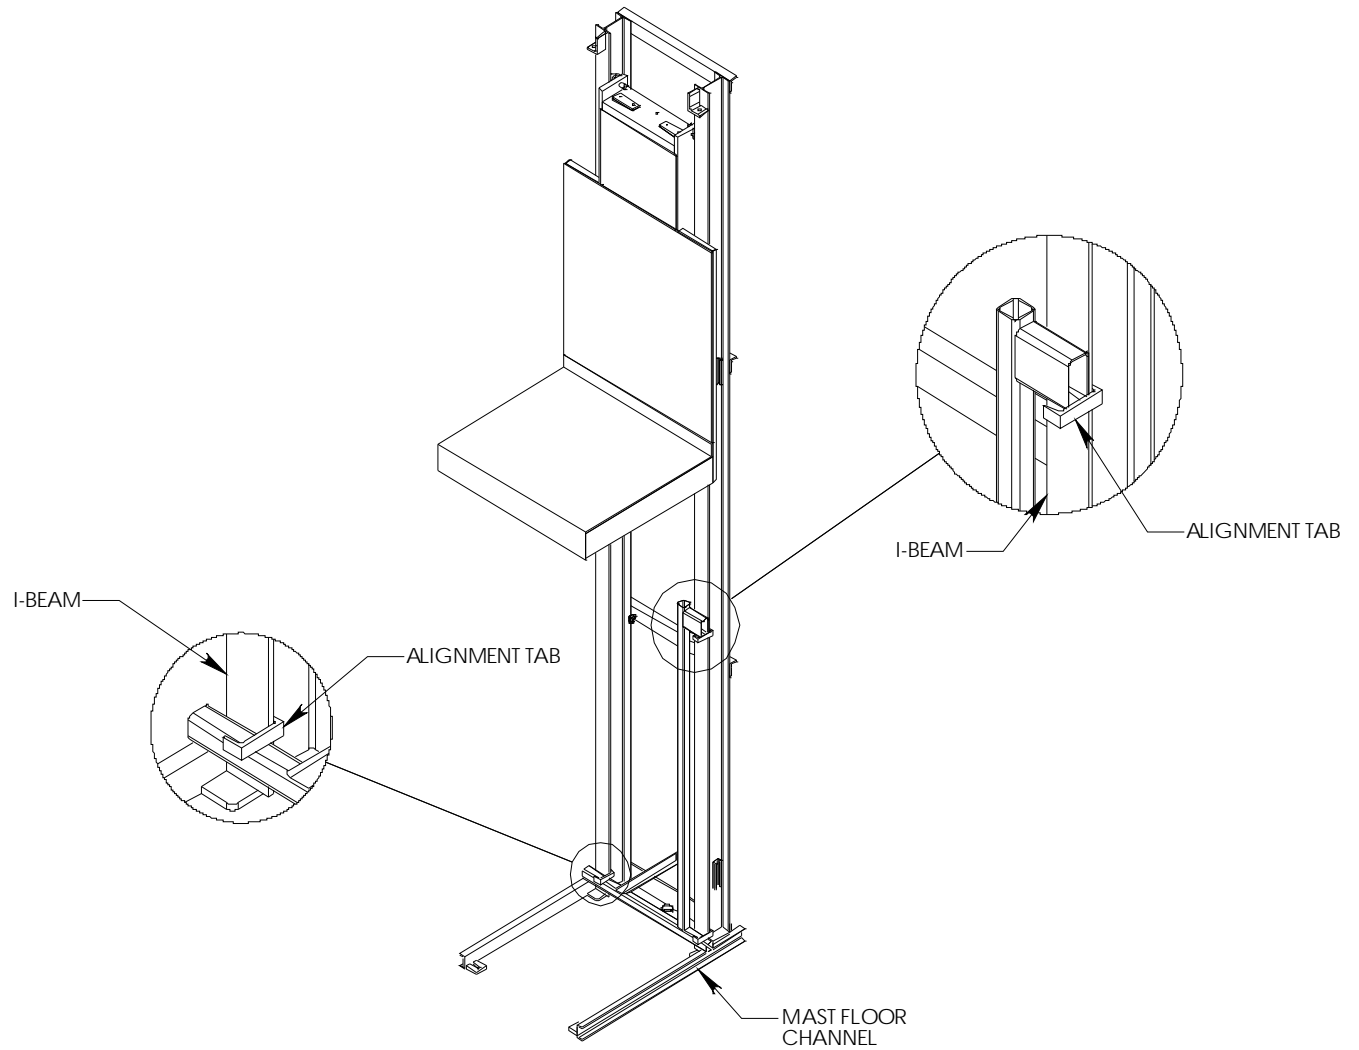

Figure 10 Maintenance Device Placement
3. Place maintenance leg across the mast channel as shown in **Figure 10**. Make sure the square tubing of the maintenance leg rests against the flange of the mast-beam.